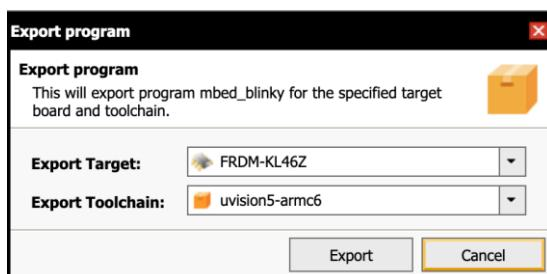

Figure 10: “Export program” dialog window from the Mbed Compiler.
- II. Select uvision5-armc6 as the “Export Toolchain” and click on “Export” as shown in Figure 10.